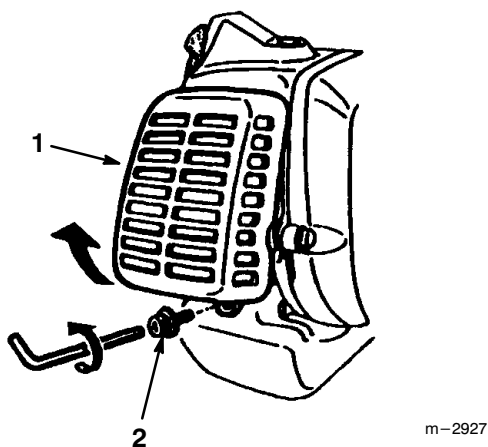

Figure 30
1. With the engine at ambient (room) temperature, remove the socket head screw holding the muffler cover, then remove the muffler cover (Fig. 30).
1. With the engine cool (ambient or room temperature), remove the socket head screw holding the muffler cover, then remove the muffler cover (Fig. 30).
4. Reinstall the cylinder cover and the muffler cover (Figs 30 and 29).
5. Reinstall the muffler cover (Fig. 30).